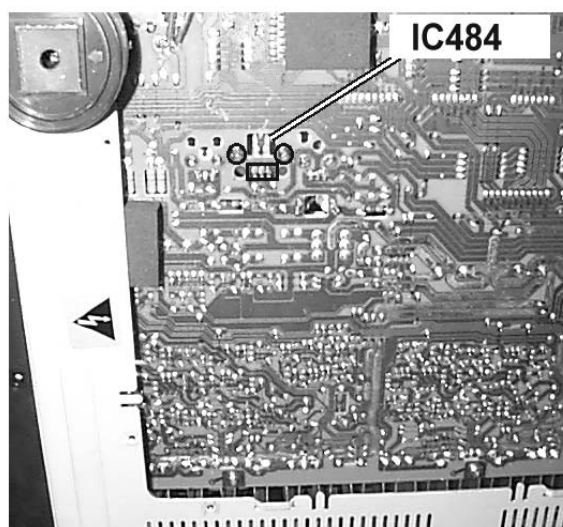

FIGURE 2
- 3) Desolder and remove R486, R495 and IC484. The IC484’s heatsink has two additional soldered connections at the bottom of the MAIN PCB. See Figure 2.